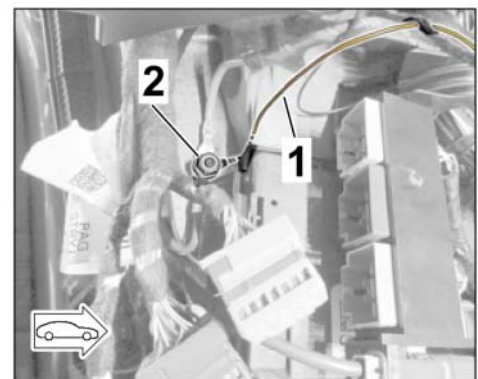

Figure 17
- Install cable shoe (ring eyelet) A6 on the ground pin (⇒ *Figure 17*)